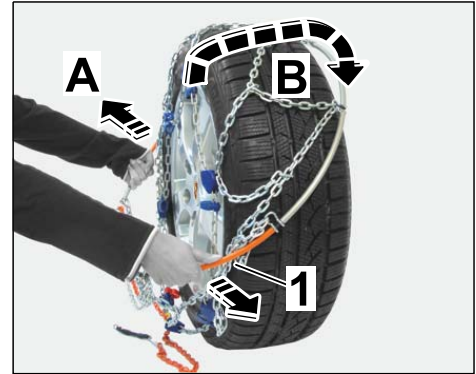

Figure 5
- 2.1.3 Pull the ends of the spring steel clip the maximum distance apart ⇒ *Figure 5 -A-*.
Guide snow chain over the wheel from above (⇒ *Figure 5 -B-*).